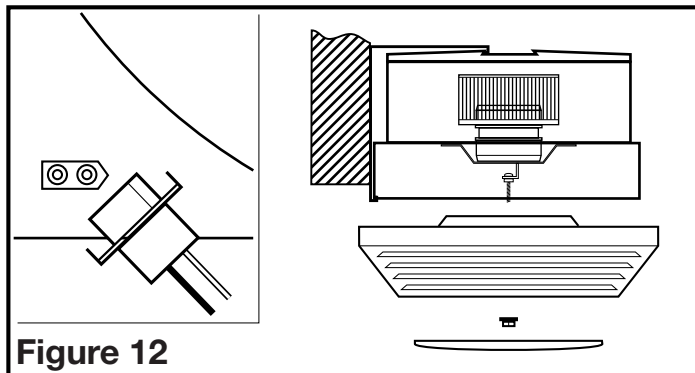

Figure 12
4. After the reflector bolt is secure, raise the grill/reflector up into position and plug the reflector into the appropriate receptacle. Secure the assembly to the reflector bolt using the acorn nut and lock washer. Install the included 6 watt LED lamp into the lamp holder by lining up the pins on the lamp base to the socket of the lamp holder and turning the lamp body clockwise until the lamp snaps into place and is firmly seated in the lamp holder (Figure 12).